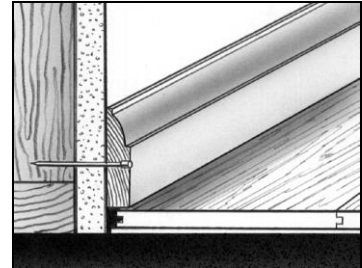

Fig. 7
2. Always predrill transitions or moldings prior to nailing. To allow the floating floor to move freely, **do not** fasten the trim to the laminate flooring (**Fig. 7**).